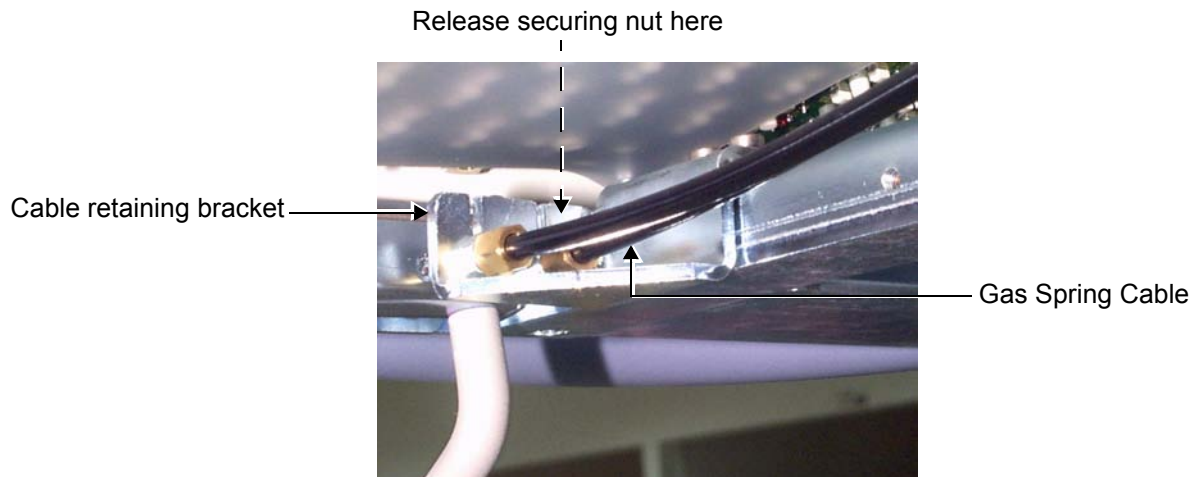

Figure 8-74 Releasing Gas Spring Cable from Retaining Bracket
- 13) Using a combination wrench, release the gas spring cable from the cable retaining bracket by loosening the securing nut, as shown in Figure 8-74 below..
- 10) Using a combination wrench, release the swivel release cable from the cable retaining bracket by loosening the securing nut, as shown in Figure 8-74 below.